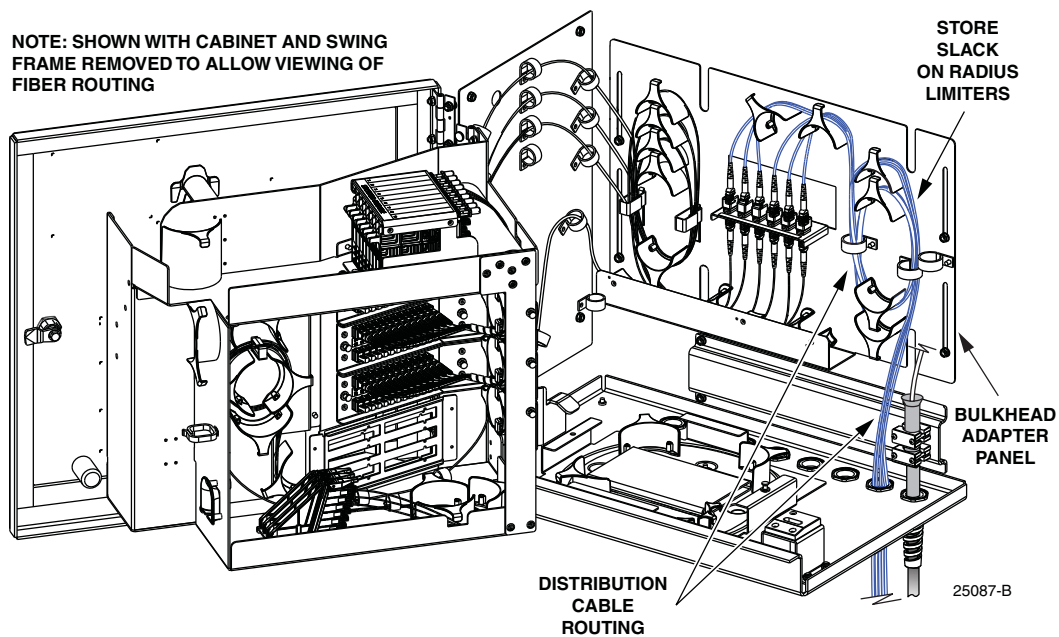

Figure 57. Routing Distribution Cables to Bulkhead Adapter Panel
12. Route each distribution cable to the appropriate adapter on bulkhead adapter panel as shown in Figure 57.